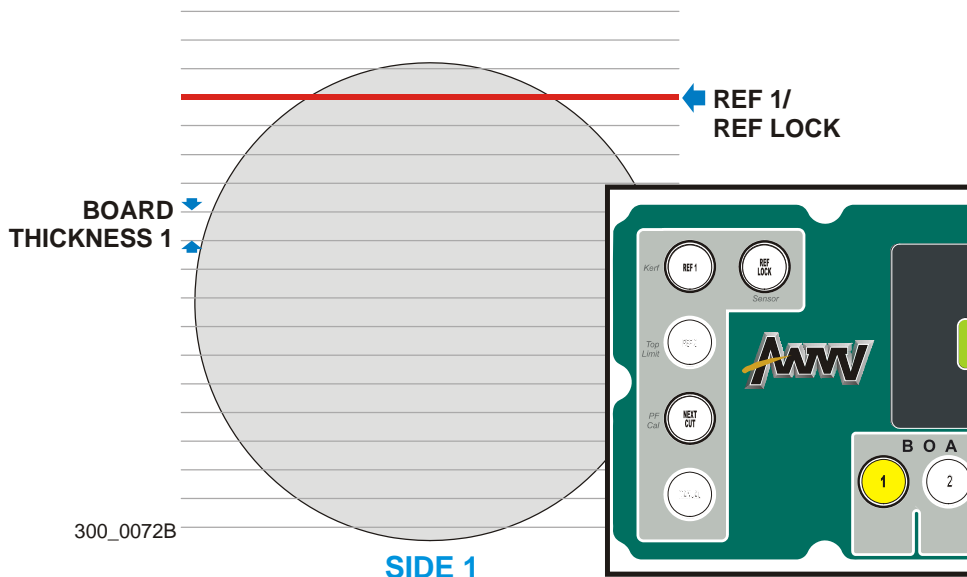

FIG. 4-26
**See Figure 4-26.** With the position of the blade now stored and locked as REF 1, when you push the Up or Down joystick button, setworks will move the blade up or down the distance determined by the selected BOARD THICKNESS button. With NEXT CUT enabled, Setworks will automatically position for the next cut below the last set position of the blade.